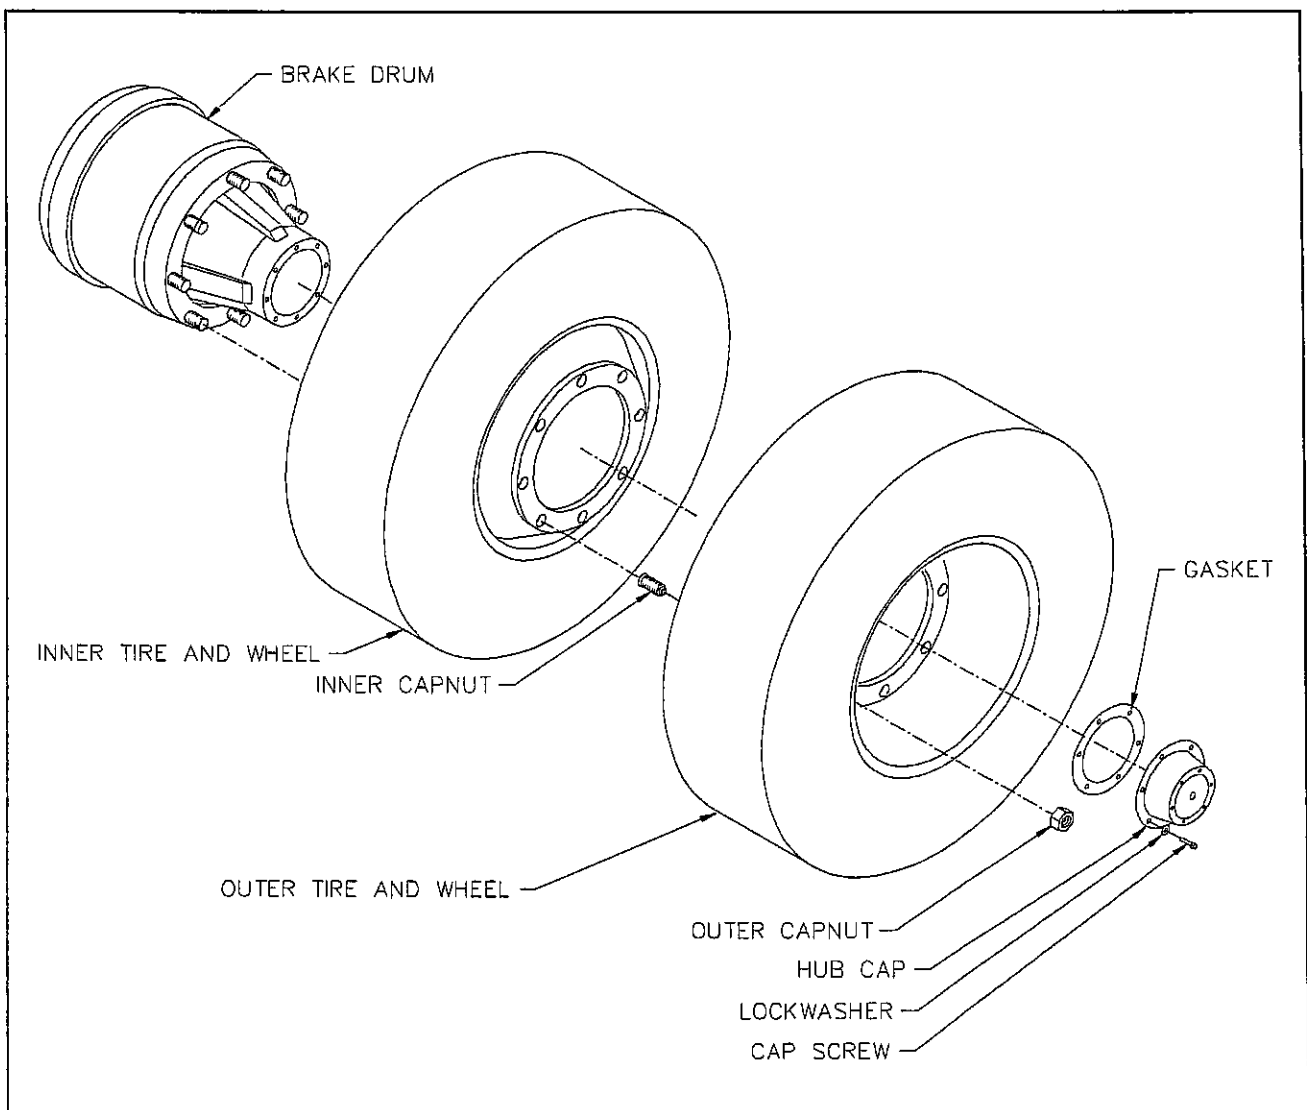

Figure 4-19 Mounting Tires and Wheels
a. Make sure that all mounting surfaces are clean and free of rust, dirt or paint. A wire brush may be used to clean these surfaces (see Figure 4-19).